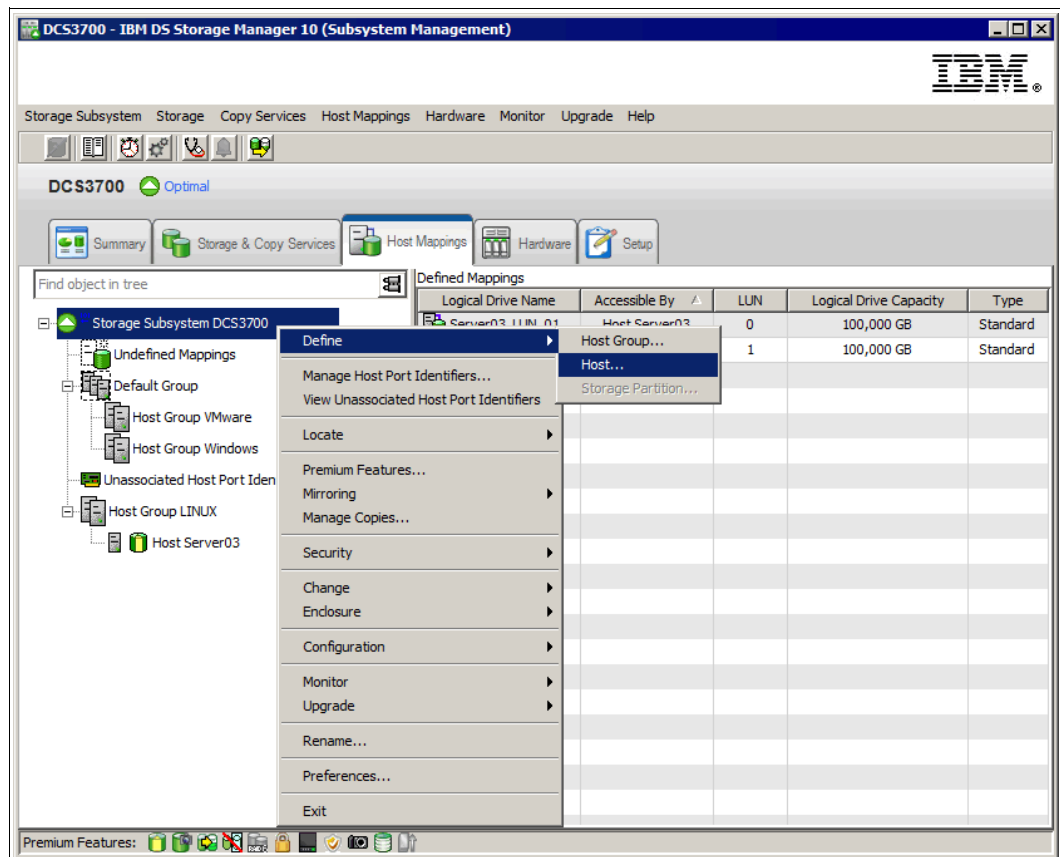

Figure 10-3 Define Host menu
1. Either right-click your Storage Subsystem icon, right-click the Default Group icon, or right-click an existing host group. In the menu that opens, select **Define** → **Host**, as shown in Figure 10-3. Even with no host group created, it is easier to create the hosts first and then the host groups. In Figure 10-3, you can see that all general configuration options for the whole storage subsystem are accessible from the Mappings tab. These options are described in Chapter 7, “Administration: Subsystem Management” on page 203.